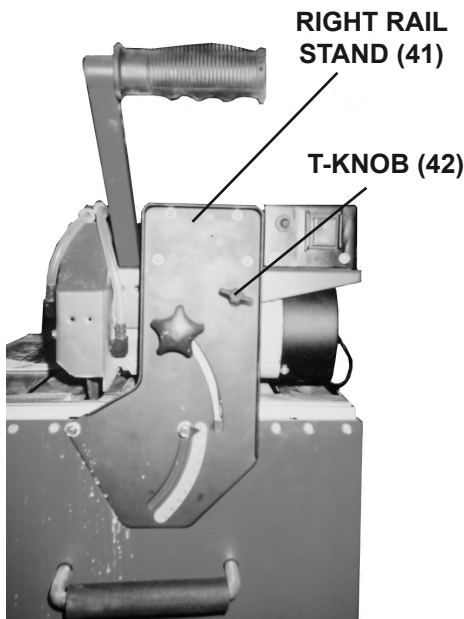

FIGURE 8
Note: The right Rail Stand (41) is held in place by the packaging during shipment. **Always tighten the T-Knob (42) to lock the Rail Stand prior to performing maintenance or relocating the Tile Saw.** (See Figure 8.)